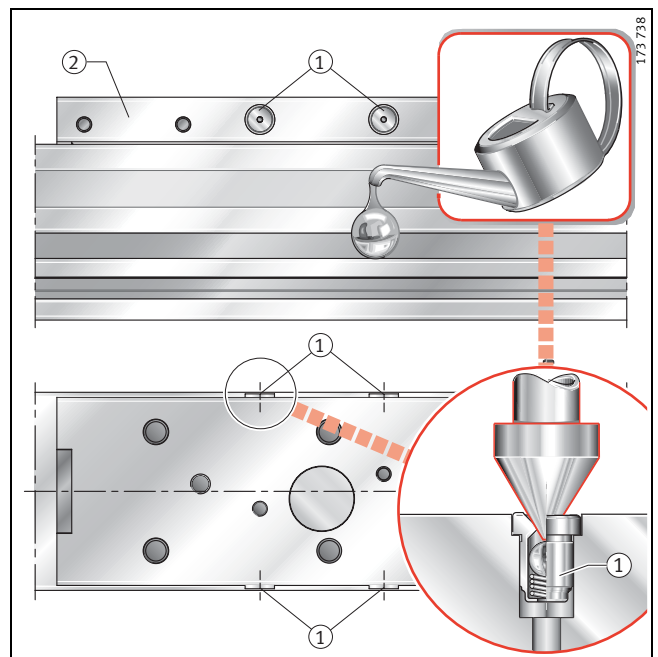

Figure 2 · Lubrication points – MLFI20-ZR
The support rail raceways are lubricated by an oil-soaked felt insert. Relubrication is carried out via two lubrication nipples ① on each longitudinal side of the carriage ② (Figure 2). Lubricant must always be provided to both lubrication nipples. Relubrication can be carried out from either the left or right side.